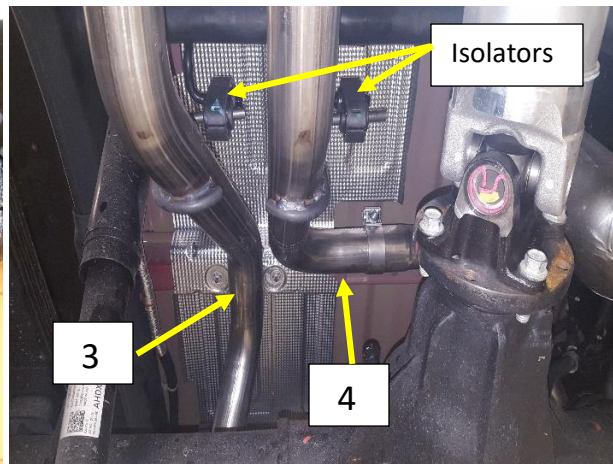

Figure 5
9. Install the right tailpipe (3) and left tailpipe A (4) into the muffler outlet. Install the hanger rod into the isolator over the muffler and the right rear tailpipe hanger rod into the isolator just past the axle. **Fig.5**